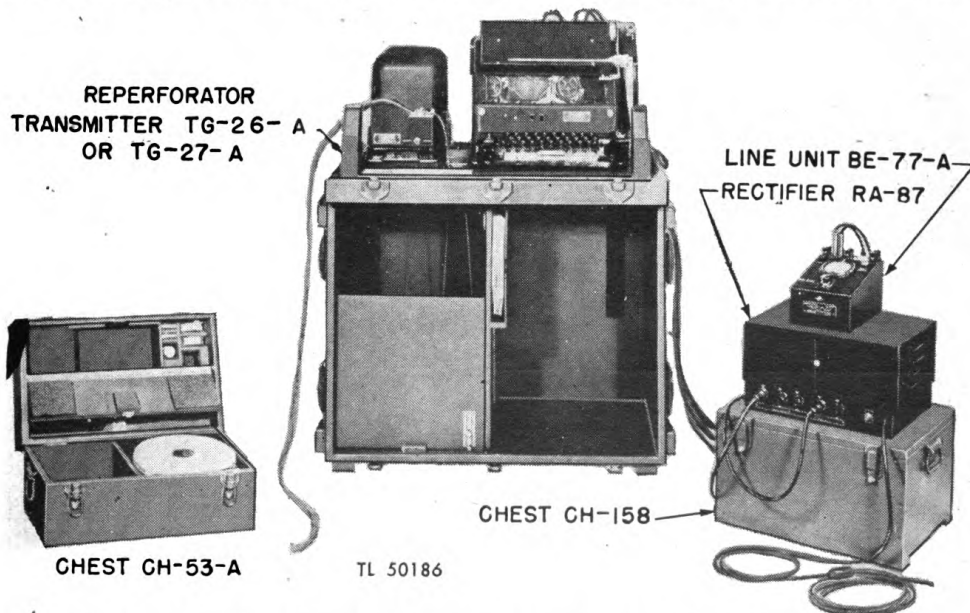

Figure 1. Reperforator Teletypewriter Set TC-16 or TC-17 prepared for operation.
1. GENERAL. a. Description. Reperforator Teletypewriter Sets TC-16 and TC-17 provide complete portable sending and receiving teletypewriter stations for field use (fig. 1). These sets consist essentially of a typing reperforator, a keyboard, and a transmitter-distributor, which are adapted for use on 60-milliamperere neutral-type networks or for point-to-point communication. Facilities are provided for operating either of the sets in conjunction with one or two Telegraph Printer Sets EE-97 or EE-98, or Teletypewriter Sets EE-97-A, EE-98-A, or EE-102. They can be used in the standard manner with Telegraph Central Office Set TC-3 (TM 11-358). Except for differences in the reperforator keyboard and type symbols discussed below, Reperforator Teletypewriter Sets TC-16 and TC-17 are the same. Their major components are interchangeable. Major components and their approximate weights and dimensions are listed in paragraph 2. A reference list of components and their corresponding stock numbers is given in paragraph 20. Official nomenclature followed by (&) is used to indicate any item of equipment regardless of its model or procurement. Thus Reperforator Transmitter TG-26-(&) is used to refer to all such transmitters regardless of model letter.
7. MISCELLANEOUS COMPONENTS. Two Ground Rods GP-29 (fig. 11) are carried separately. Supplies and accessories include rolls of reperforator tape, inking ribbons, fuses, power extension cords, and a 3-way power plug. All are packed in Chest CH-53-A with the line unit (fig. 1). See section V for a detailed list of component parts.